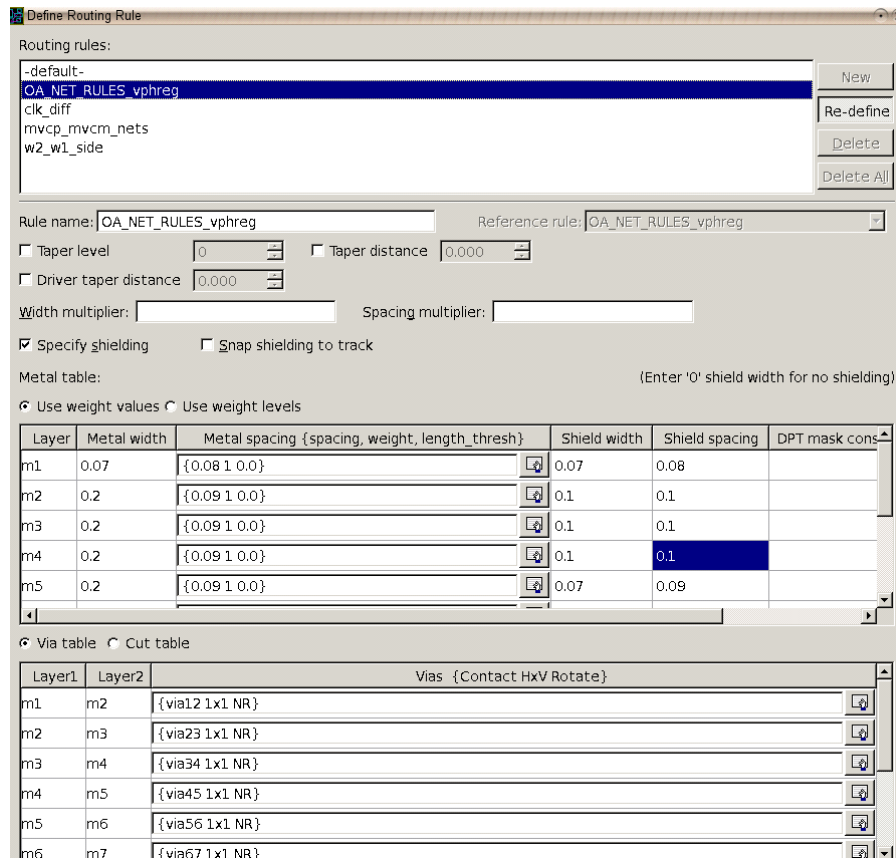

Figure 18 Define Routing Rule Window
4. Change the **Shield width** and **Shield spacing** values for layers m2-m4 to 0.1u as shown in Figure 18.